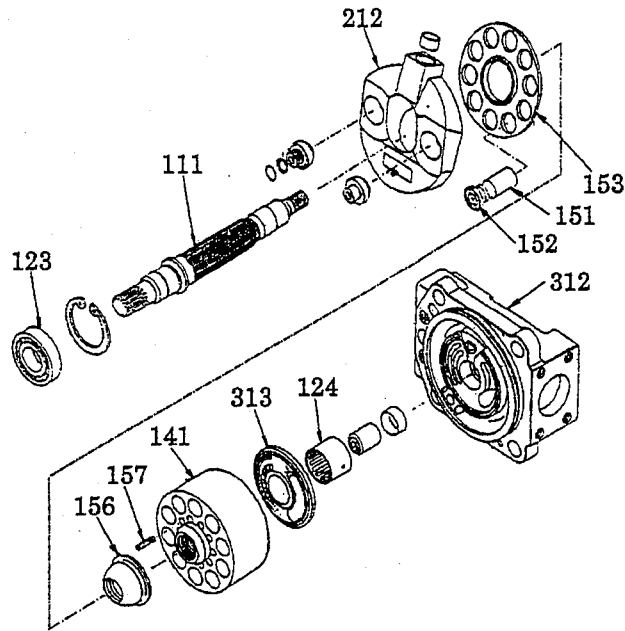

Fig. 24-4 Rotary group
(2) Rotary group (See Fig. 24-4)